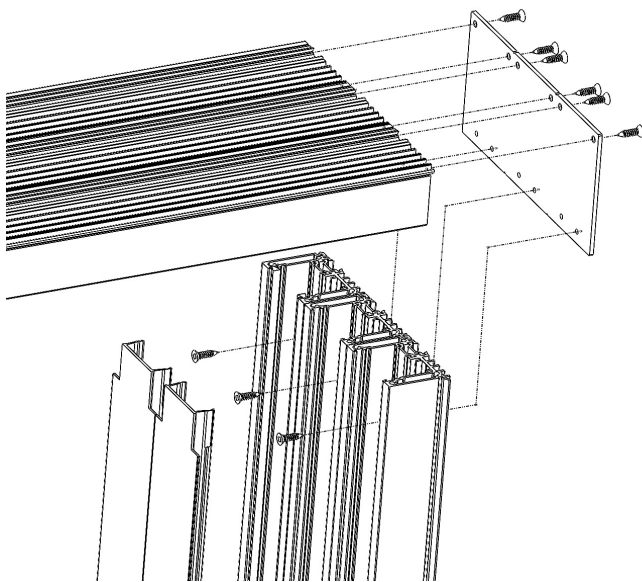

Figure 6
16. Pre-drill the jamb to the end plate assembly holes at each end and as required with a #21 drill bit. Remove the jamb assembly and seal the jamb to the end plate interface at the sill location with Dow 795 sealant. (See Figures 6 & 7)